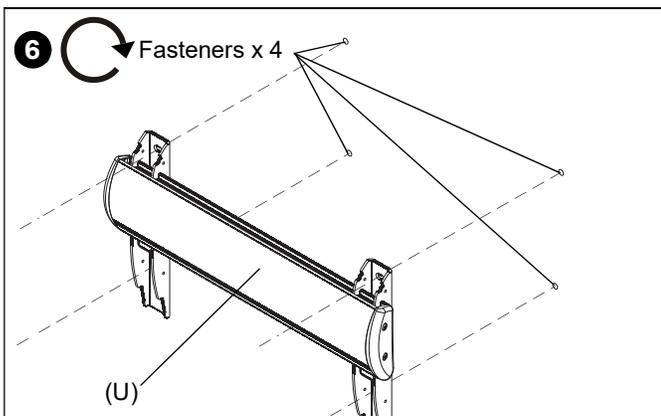

Figure 4
6. Install four fasteners appropriate for wall type (See Table 1) through outer holes of projector mount wall bracket (U), into pilot holes, and tighten. (See Figure 4)